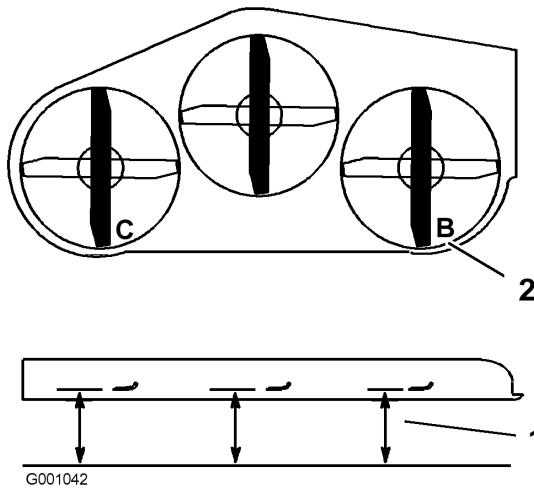

Figure 70
1. Position the right blade front-to-rear (Figure 70).
2. Measure the right blade at the **B** location, from a level surface to the cutting edge of the blade tip (Figure 70).
4. Position the left blade front-to-rear (Figure 70).
5. Measure the left blade at the **C** location (Figure 70), from a level surface to the cutting edge of the blade tip.